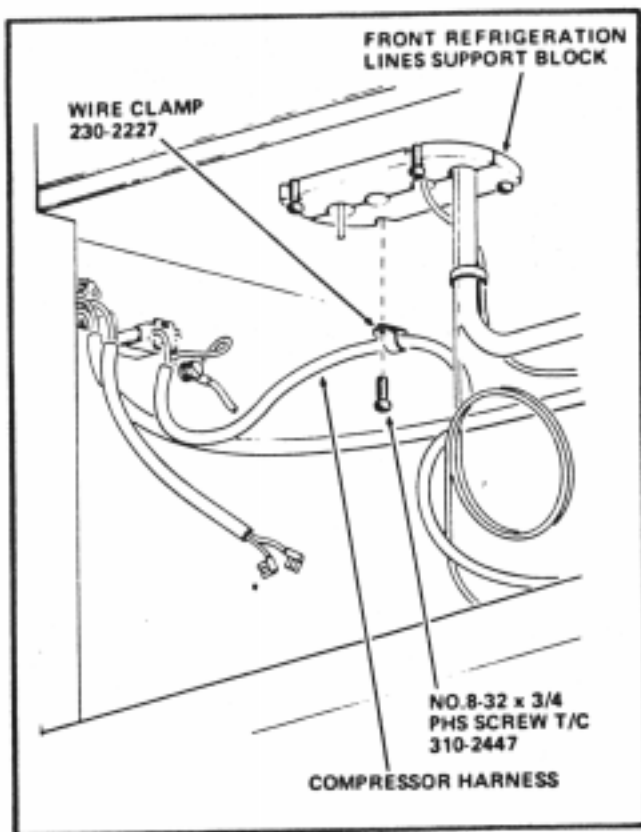

FIGURE 3
2. Remove one attaching Screw from the left end of the front Refrigeration Lines Support Block. See Figure 3.
3. Place the Wire Clamp included in the kit, part number 230-2227, around the Compressor Harness and attach the Clamp and Compressor Harness to the Refrigeration Lines Support Block with the Screw removed in Step B-2. See Figure 3. (An extra Screw, part number 310-2447, is included in the kit.)